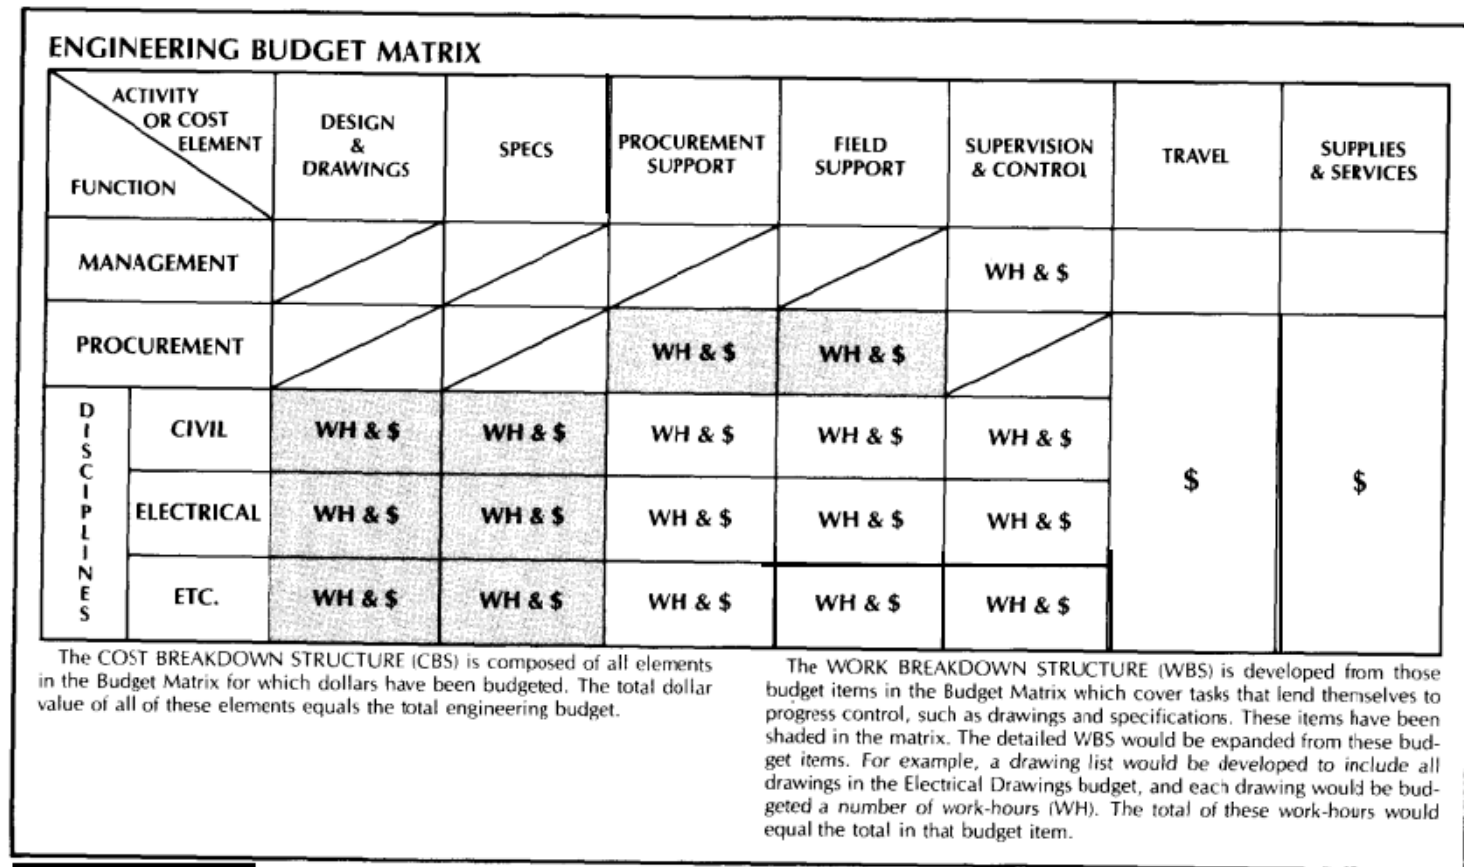

Figure 1. Engineering Cost Breakdown Structure and Work Breakdown Structure
- ☐ First, a two-part code will reflect the CBS matrix illustrated in Figure 1,
- ✓ *For example and referring to Figure 1, assume that the electrical discipline function has the code “EL,” that the budget category is “design and drawings” (code “01”), and the drawing number is 4567 - the **coding for work** on this would be:*